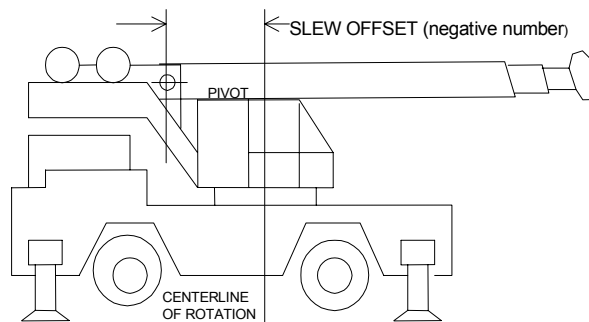

Figure 6
- Measure the horizontal distance on the crane between the centerline of rotation and the center of the boom pivot pin (Fig. 6) to get the **NEGATIVE SLEW OFFSET**.